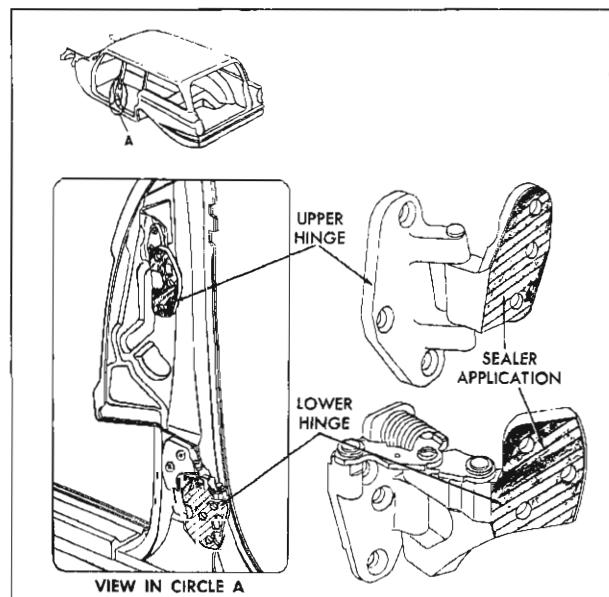

Fig. 12-30 Rear Door Hinge Assemblies
- With door properly supported, remove upper and lower hinge attaching screws at door hinge pillar or screws and bolts at center pillar, depending on method of removal being used (Fig. 12-30).
- Apply a coat of heavy-bodied sealer to attaching surfaces of hinge straps or corresponding surfaces of door or body. Figure 12-30 shows location of rear door hinges and necessary sealer application.